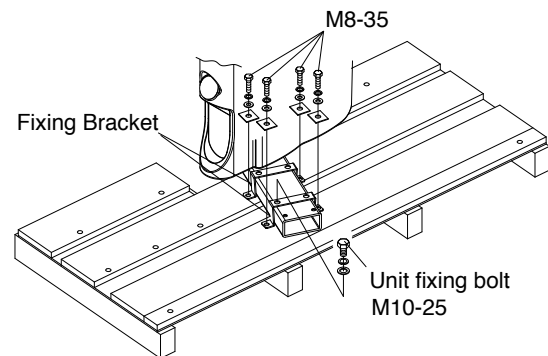

Fig.5-2 Removing Unit from Pallet
- (2) Place the unit with pallet behind the planned location.
- (3) Remove a unit fixing bolt (M10 - 25) and hold the unit..
- (4) Remove four bolts (M8-35) and two fixing brackets.(Fig.5-2)
(2) Mounting The Cuspidor Unit
- A. Hold the cuspidor unit while on the pallet and remove 3 x M10 bolts from under the mounting adapter. (Fig.5-2)